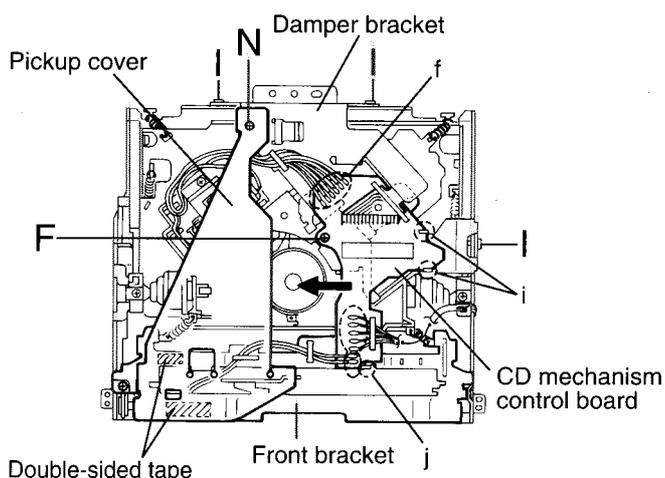

Fig.1
### ■ Removing the CD mechanism control board (See Fig.1 and 2)
**(See Fig.1, 6 to 9)**